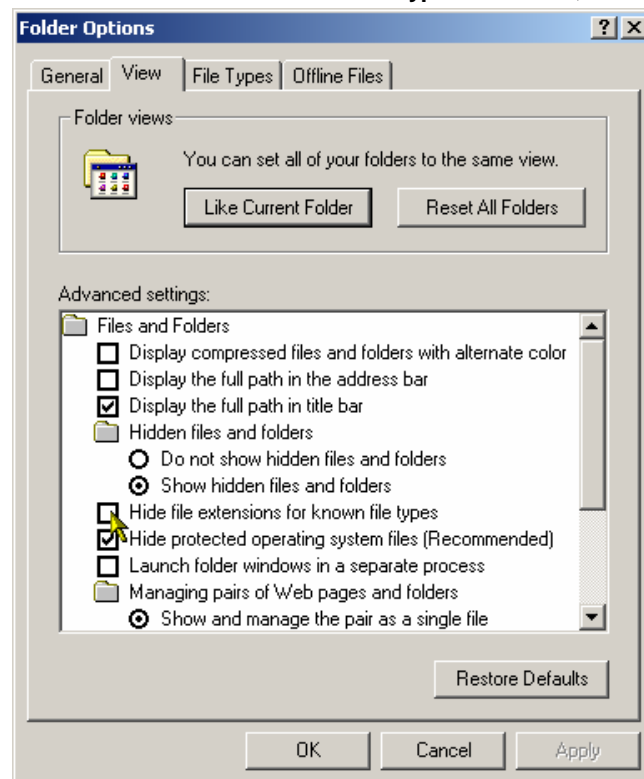

Figure D.1. Windows Explorer: Folder Options Dialog Box
3. From the **Tools** menu, select **Folder Options**. On the **View** tab of the **Folder Options** dialog box, shown in **Figure D.1**, clear the **Hide file extensions for known file types** check box, and then click **OK**.